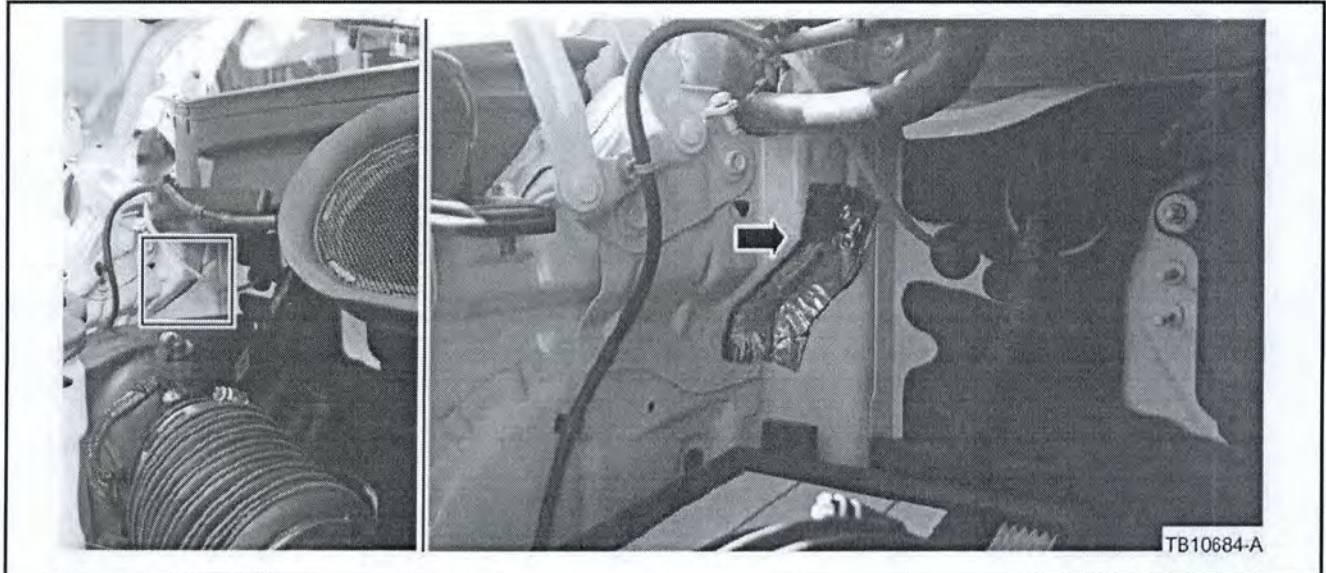

Figure 4 - Article 15-0118
- b. Clean the body joint between the right inner fender and dash panel. Wipe the area clean with Motorcraft® Metal Surface Prep Wipes or equivalent. (Figure 4)
- c. Cut the mastic patch to 8 cm x 13 cm (3" x 6") and apply the patch to the area making sure to have good adhesion to both sides of the body. Remove any debris from the air cleaner tray. (Figure 4)